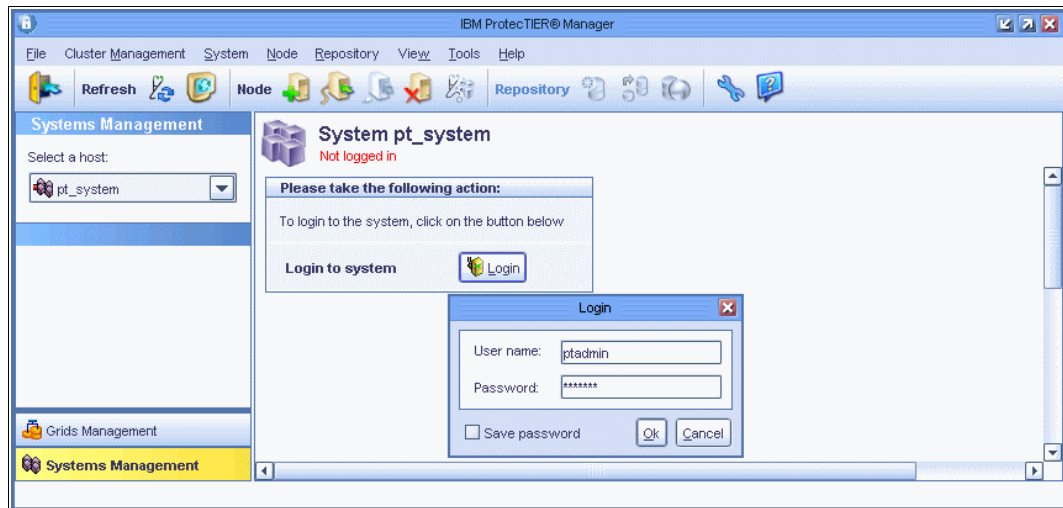

Figure 5-23 ProtecTIER Manager Login window
2. Click **Login**. The Login window opens (Figure 5-23).